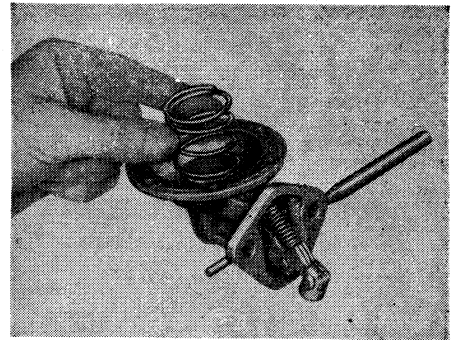

Fig. 23 Series R. Installing diaphragm spring
3. Replace the rocker arm spring, and large coil (diaphragm) spring, Fig. 23, on the staked-in oil seal (or the body ledge around the pull rod hole). Lay diaphragm spring retainer on spring.